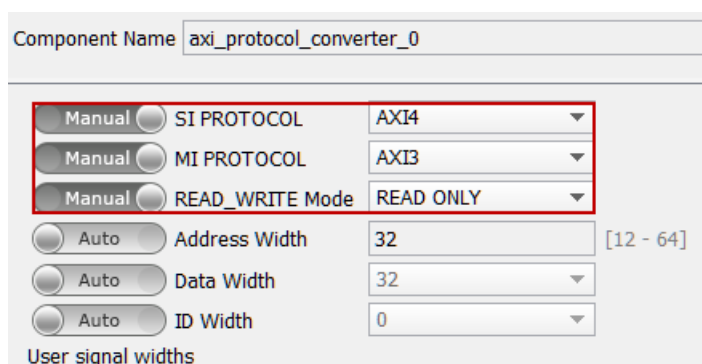

Figure 2. Configuring AXI Protocol Converter IP
- Add an *axi_protocol_converter* instance and configure it (Figure 2) to AXI4 protocol on the slave side and AXI3 protocol on the master side. The *READ_WRITE_MODE* is set to *READ_ONLY* since the PRC will only read the partial bitstreams from the DDR memory. Connect the added *axi_protocol_converter* instance's **M_AXI** interface to the **S_HP0** interface of the processor system. Make the **S_AXI**, **aclk**, and **aresetn** ports external